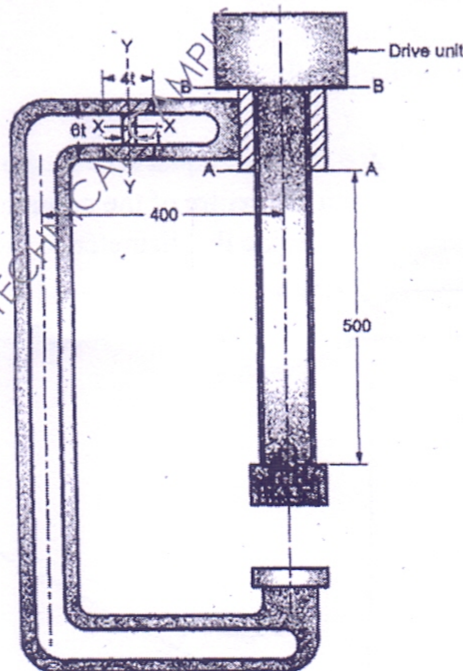

Figure 3
b) A Machine press screw as shown in figure 3 is subjected to an axial force of 40 kN. Overhang of horizontal member of frame is 400 mm and height of screw is 500 mm. (13)